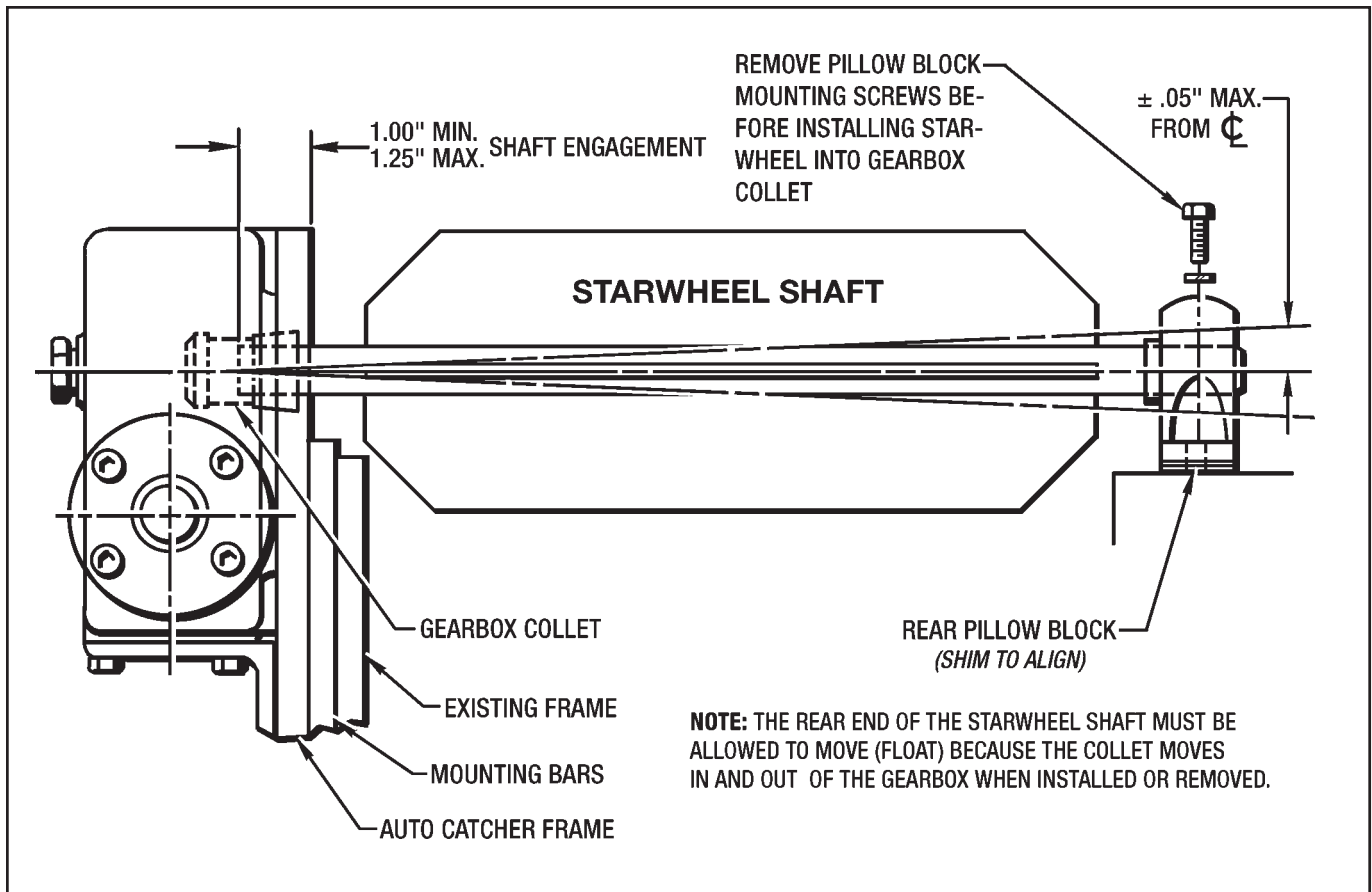

Figure 2.1 - Drive Unit Installation
(See Figure 2.1)
5. Position the drive assembly in line with the starwheel shafts. The bearing at the other end of the starwheel should be floated in to align with the gearbox. (See Figure 2.1 below)
8. Reposition and align the Rear Pillow Block as shown in Figures 2.1 and 2.2.